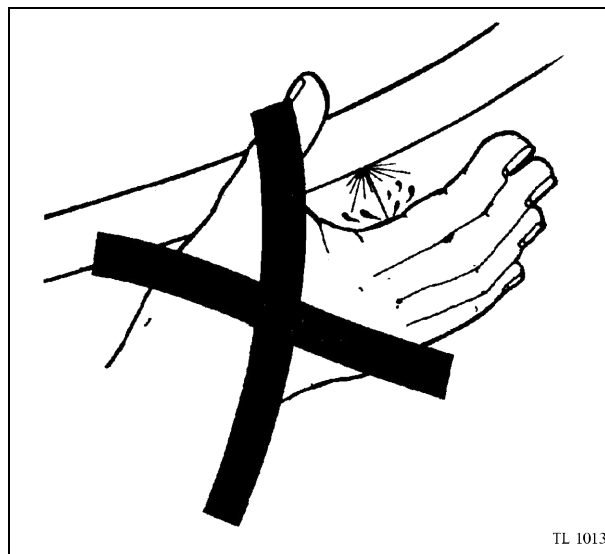

Fig. 12
**WARNING:** Diesel fuel or hydraulic fluid under pressure can penetrate the skin or eyes and cause serious personal injury, blindness or death. Fluid leaks, under pressure, may not be visible. Use a piece of cardboard or wood to find leaks. **DO NOT** use your bare hand. Wear safety goggles for eye protection. If any fluid is injected into the skin, it **MUST** be surgically removed within a few hours by a doctor familiar with this type of injury (see Fig. 12).